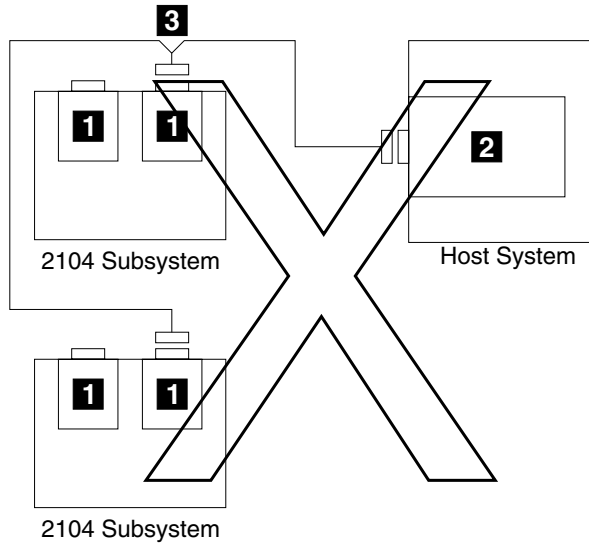

Figure 59. One adapter in one host system connected to two 2104 Model DS4s through a Y-cable (1). This configuration is invalid.
Figure 59 shows one adapter in one host system connected to two 2104 Model DS4s through a Y-cable (1).